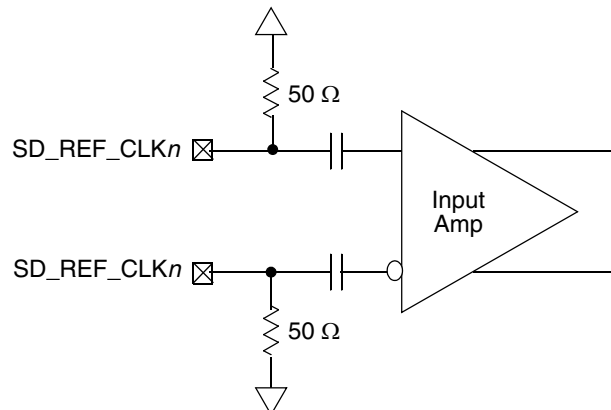

Figure 33. Receiver of SerDes Reference Clocks
- The $SD_REF_CLK_n$ and $\overline{SD_REF_CLK_n}$ are internally AC-coupled differential inputs as shown in Figure 33. Each differential clock input ($SD_REF_CLK_n$ or $\overline{SD_REF_CLK_n}$) has on-chip 50- Ω termination to SGND followed by on-chip AC-coupling.